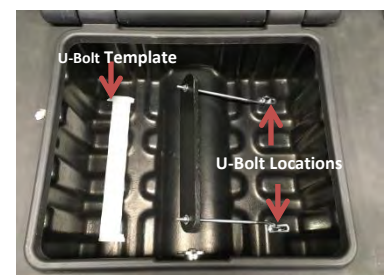

Figure 8. Battery Hold Down Install
3. Use the paper template provided to locate and drill (8) 1/4" clearance holes for the U-bolts in the box (see Figure 8).
4. Install the (4) U-bolts, (8) jamb nuts, and (4) washer plates on the inside at the bottom of the truck box.
5. Add (4) washer plates and (8) nylon locking nuts on the outside bottom surface of the box and tighten until snug.
6. Install j-hooks and poly battery clamp. Use the flat washers and (4) nylon locking nuts and tighten them until snug.